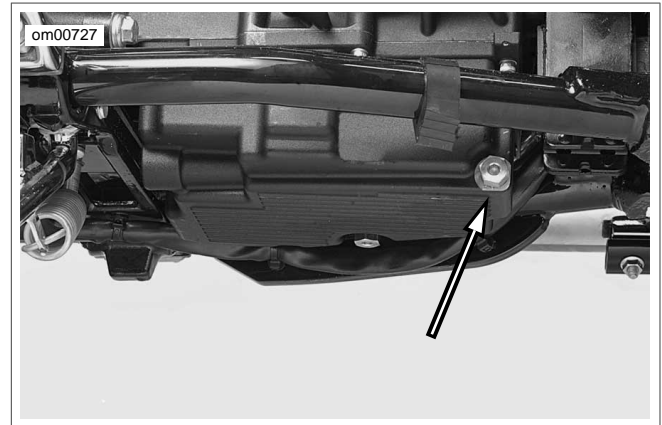

Figure 1-3. Engine Oil Drain Plug (oil pan under transmission, view from left side of vehicle)
3. See Figure 1-3. Remove the engine oil drain plug with oil-ring. Allow oil to drain into a suitable container.
6. See Figure 1-3. Install oil pan drain plug (1).